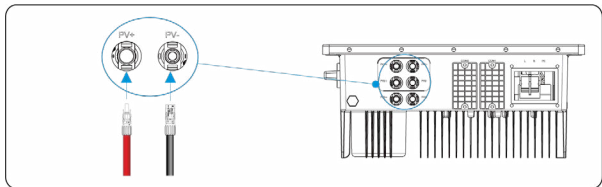

Figure 5.17 Connecting to the inverter
Step 6 Insert the positive and negative connectors into their corresponding terminals of the inverter until a “click” sound is heard, as shown in **Figure 5.17**.